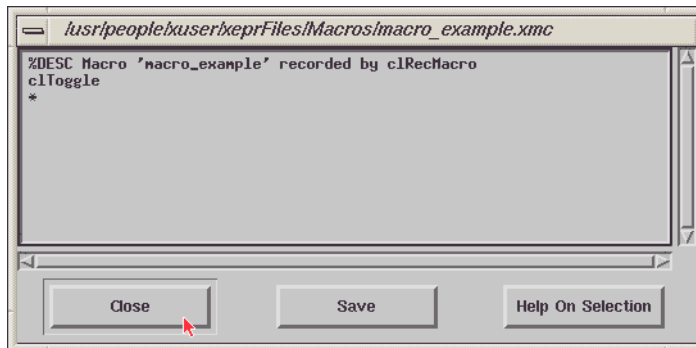

Figure 8-5 A dialog box showing the macro commands you recorded.
8. **View the contents of the macro.** A dialog box containing all the macro commands you just recorded appears. Click on the **Close** button. (See Figure 8-5.)